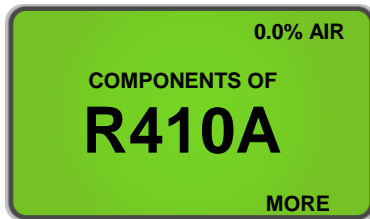
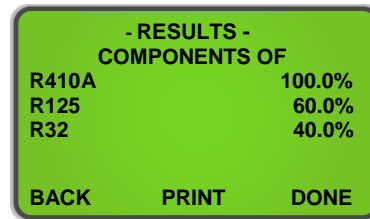

Figure 17
Figure 18
The *YELLOW JACKET 68940* has the ability to detect blend ratios that have been altered by contamination. As stated in section **2.8 Pure Refrigerants**, the blends that can be *Identified and Analyzed* are **R22, R32, R134a, Hydrocarbons (HC), R404A, R407C and R410A**. If one of the multi-component refrigerant blends has incorrect component ratios, it will display as shown below in **(Figure 17)**. To see the component concentrations, press the 'MORE' button **(Figure 18)**. Refer to section **2.10 Print the Test Results & Channel Data** to print.